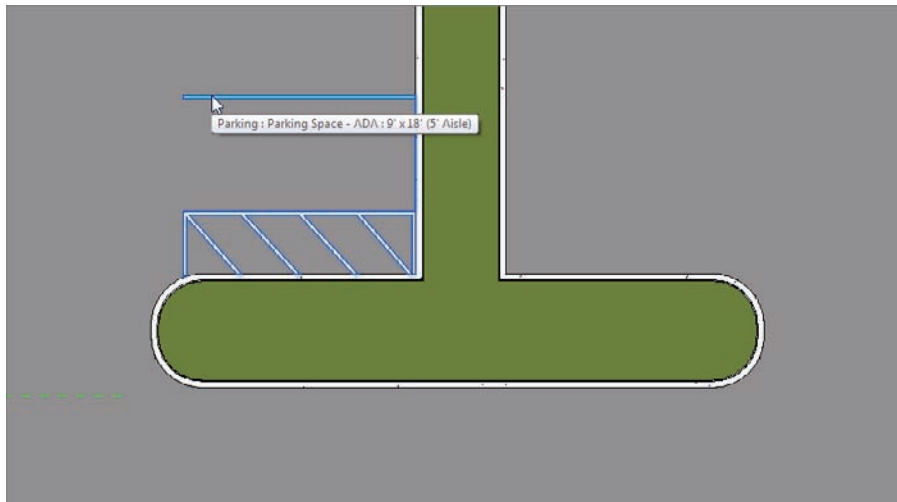

FIGURE 18.16 The ADA parking space
3. Place it as shown in Figure 18.16. You'll have to press the spacebar three times to rotate it into the correct orientation.